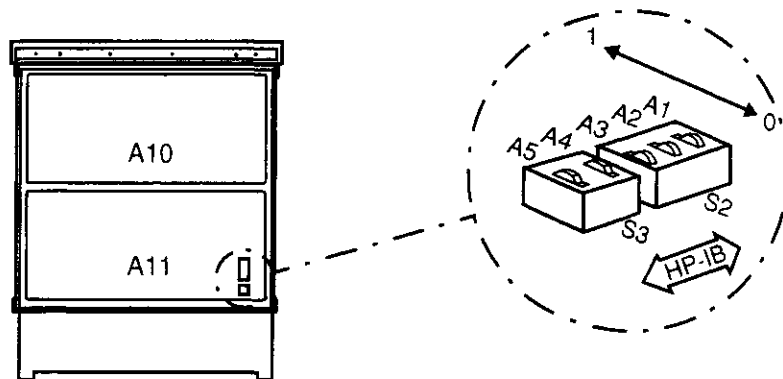

Figure 2-3. HP 8656B/8657A HP-IB Address Switch Location and Settings
- Locate the HP-IB address switches S2 and S3 on the All Microprocessor/Memory/HP-IB Assembly (see Figure 2-3).
- Use a pointed object (such as a pencil) to set the switches to the desired HP-IB address in binary (see Figure 2-3). The five switches are labeled A1 through A5, where A1 is the least significant address bit and A5 is the most significant address bit. Pressing the right-hand side of the switch (as viewed from the front of the Signal Generator) "sets" the corresponding address bit (bit = 1), while pressing the left-hand side "clears" the bit (bit = 0). Setting all of the address bits to "1" will result in an invalid HP-IB address (31 decimal). In this case, an HP-IB address of 30 (decimal) is stored in memory once the Signal Generator is powered up.